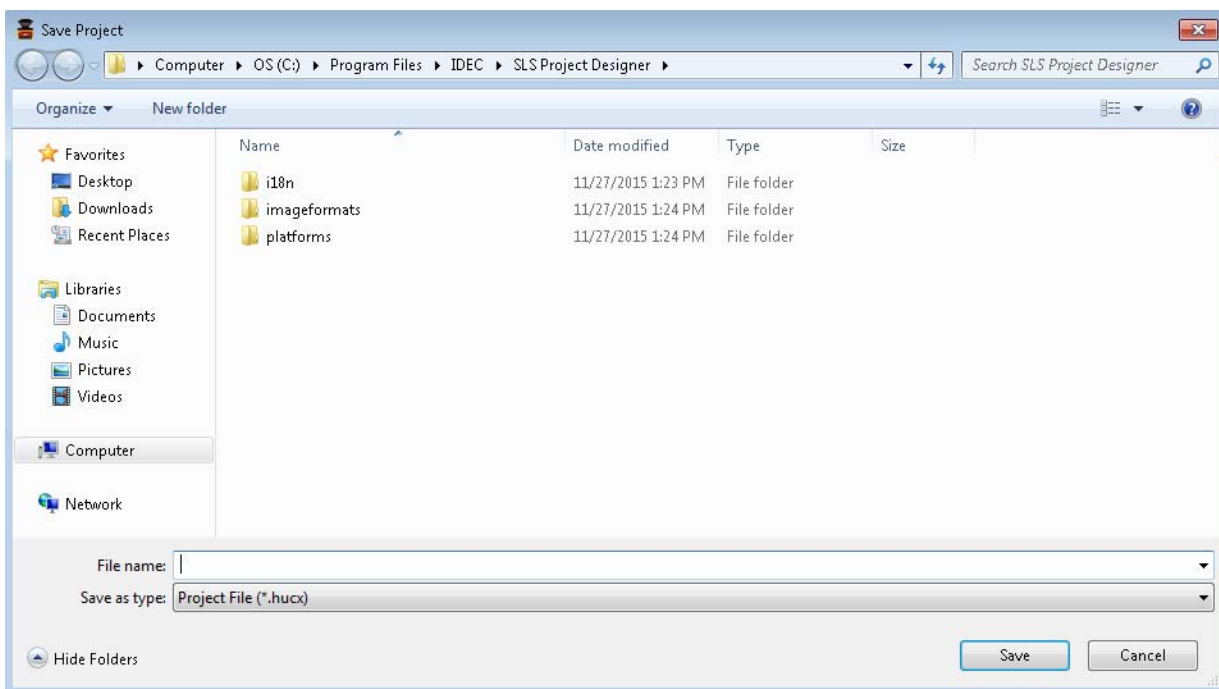

Figure 7-51 Save project file
c) Enter a file name and click Save button. Change the location of the file if necessary. (Figure 7-51)